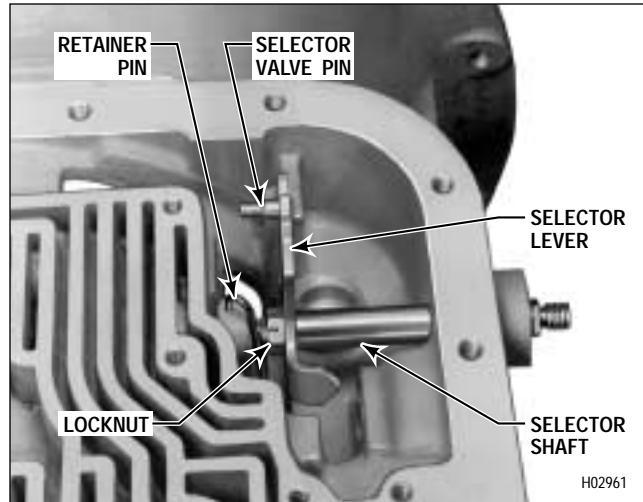

Figure 6-56. Selector Shaft Components
(1) Remove seal 61 (Foldout 12,B) from the transmission housing using seal remover tool J 26401.
(2) To remove the manual shift lever, remove the retainer pin and locknut (Figure 6-56). Begin to pull the selector shaft out of the housing enough to remove the selector lever. **The selector lever may have burred the end of the selector shaft; remove the burr with a small file before removing the shaft from the transmission housing.**
(3) Do not remove snapring 9 (Foldout 12,A) unless replacement is necessary.
(4) Do not remove the breather from transmission housing 11 unless replacement is necessary. It is press fit and should be cleaned while in the housing.
(3) Hold selector lever 54 or 55 (Foldout 12,B) so the selector valve pin is facing the inside of the case. Slide selector shaft 60 through the opening in the transmission housing, oil seal, and into the slot in selector lever 54 or 55. Attach locknut 59 and retainer pin 57 (Figure 6-56). Tighten the locknut to 15–20 lb ft (20–27 N·m).
(4) If removed, press new breather 7 (Foldout 12,A) into the housing.